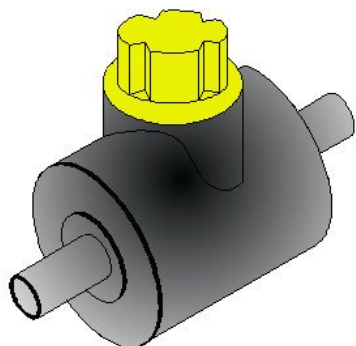

Figure 64 - Example - PE Service Isolation Valve
1. Use a PE valve for below ground operations wherever they are available in preference to a metallic valve. (Figure 64).